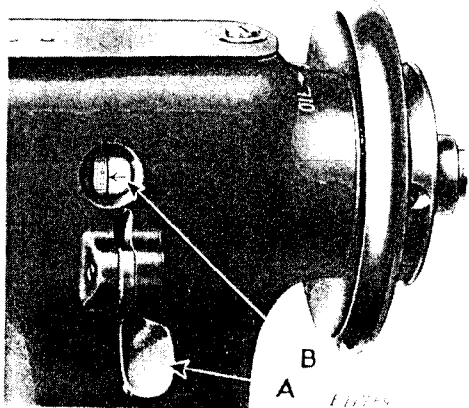

Fig. 17. Stitch Regulator
Press the stitch regulator lever (A, Fig. 17) and at the same time turn the balance wheel over toward you until the lever (A)
engages the notch in the stitch regulator flange (B, Fig. 17). Continue to hold the lever (A) in the notch in the flange (B) and at the same time turn the balance wheel backward or forward, as required, until the desired number is opposite the arrow, as shown in Fig. 17, then release the lever (A).